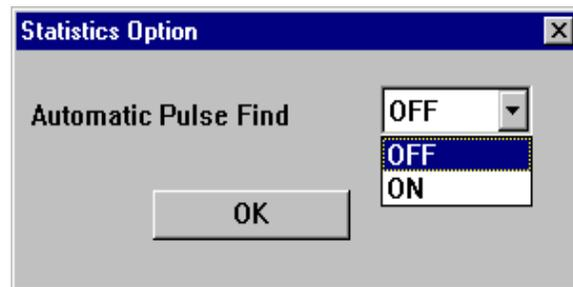

Figure 5.2 Statistics Options Dialog Window
- Toggle the **Automatic Pulse Find** selection from **OFF** to **ON** (See Fig. 5.2).